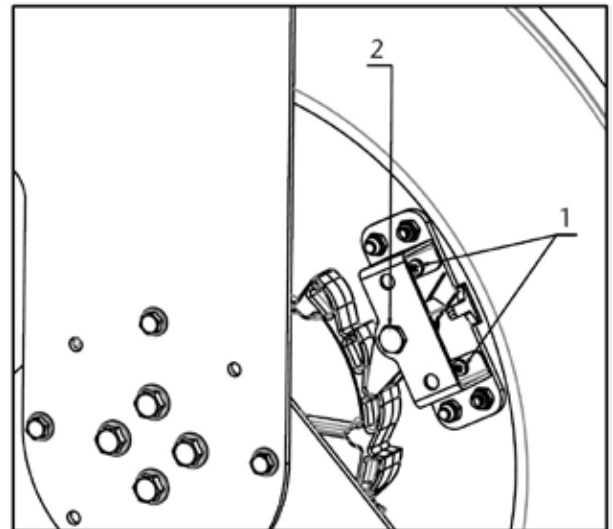
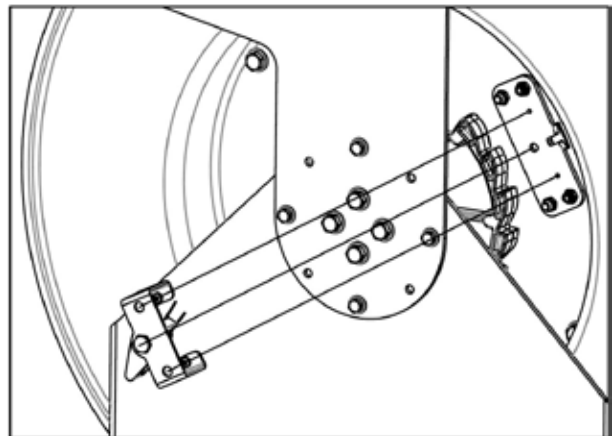

Figure 10
Figure 11
1. With the hose fully wound on the spool and the hose stop touching the rollers, remove the screws (1) (figure 10). **(Use the access holes in the bracket).**
2. Unscrew the stop pawl shaft (2) (figure 10) and remove the stop pawl assembly (figure 11).